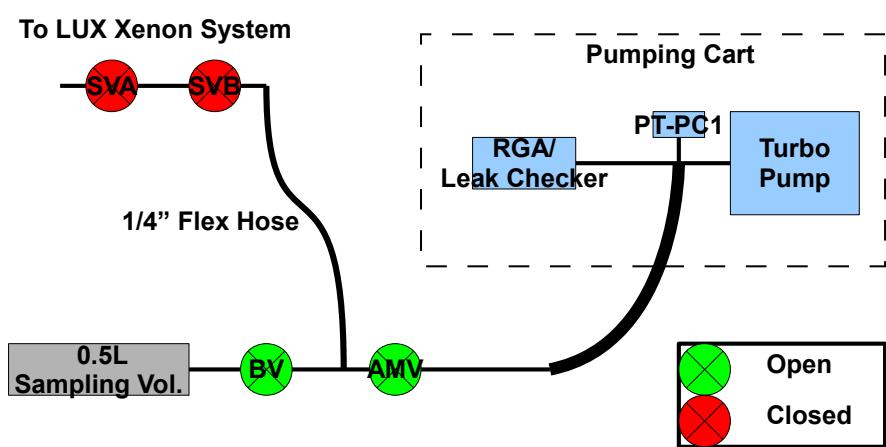

Figure 8: Illustrated procedure for attaching the sampling manifold to the LUX xenon system
5. Set up the sampling plumbing according to Figure 8 and Figure 9.